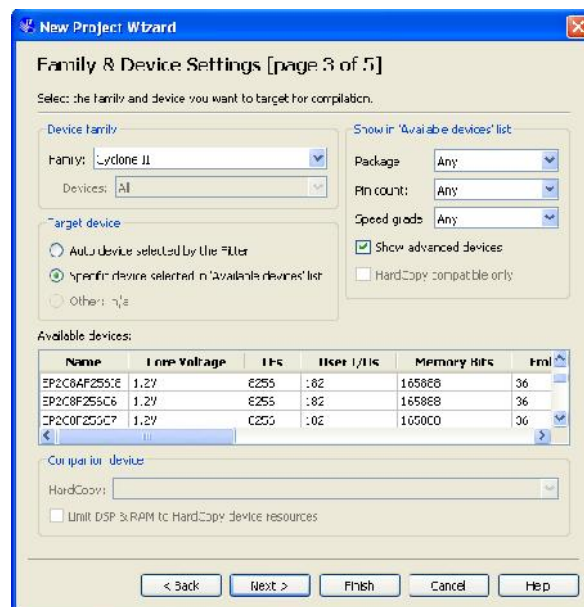

Figure 7. Choose the device family and a specific device.
3. The wizard makes it easy to specify which existing files (if any) should be included in the project. Assuming that we do not have any existing files, click Next, which leads to the window in Figure 7.